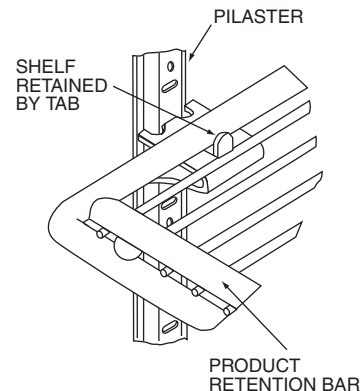

FIGURE 6 — PROPER INSTALLATION OF SHELF ON CLIP
6. Shelves must be placed so that the retaining tab on the shelf clip captures the shelf as shown in Figure 6.